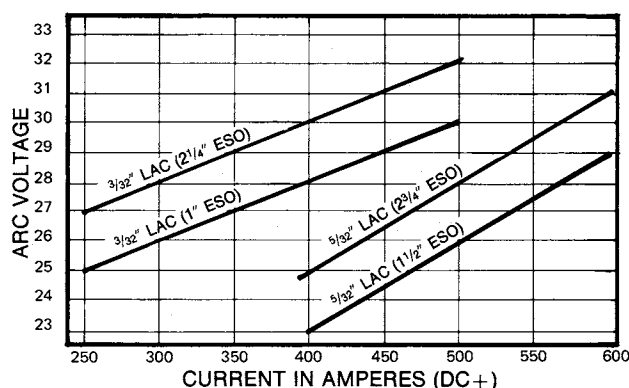

Figure 4
- V. The proper voltage to current relationship for butt or heavy plate welding with single LAC-Ni2 and B2 electrodes is illustrated in Figure 4. For LAC-M2, add 2 volts to the voltage determined from Figure 4.